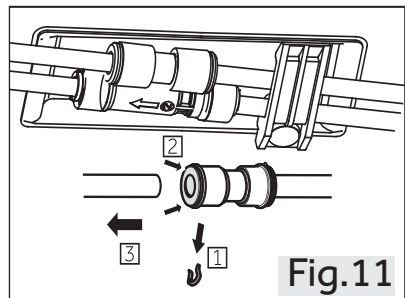

Fig.11
1. Release the left side of two water couplers on the front left corner at the bottom of appliance: press and hold in the collar as shown and remove the water pipe. (Fig. 11).